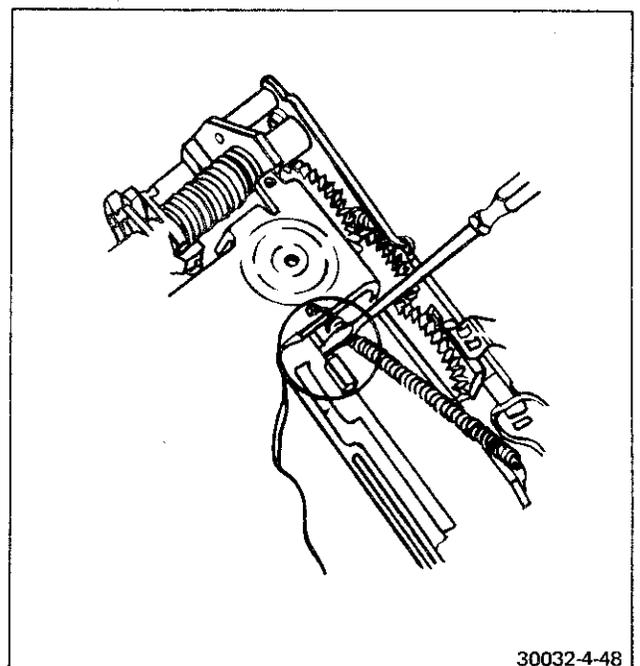

FIGURE 4-48 RELEASE BOOT RETAINER TAB
10. Refer to Figure 4-48. Use a narrow-blade jeweler's screwdriver. While pulling the corner of the mirror cover away from the frame, depress the boot retainer tab to clear the retaining stud. Release the pressure as soon as the tab snaps free.